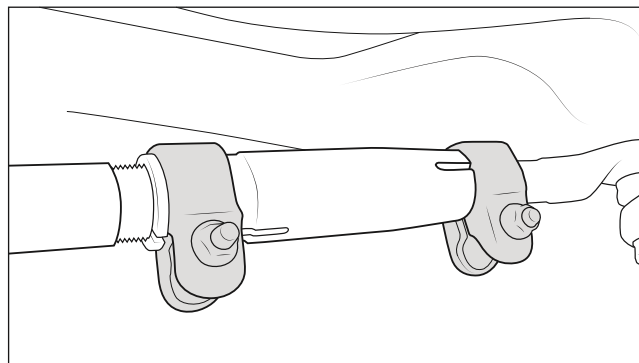

Figure 39
22. Tighten adjuster clamps to 40 ft-lbs (fig. 39). Even if the vehicle is going straight to alignment, do not drive it without the clamps or any steering input could slip the adjuster and compromise the threads.